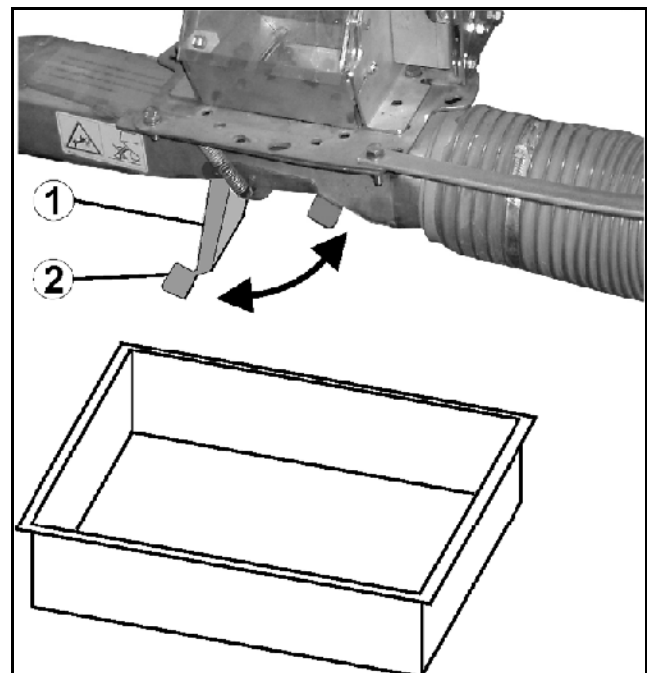

Fig. 79
Open the injector sluice by swivelling the flap (Fig. 79/1).
To open and close the spring-loaded injector flap, use only the lug (Fig. 79/2) as a handle.
- shut off injector sluice flap (Fig. 79/2) .